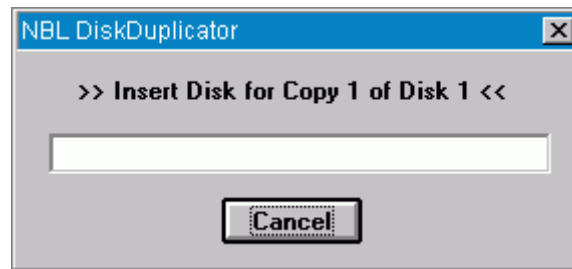

Figure 2
2. Double click on the firmware upgrade executable file from the stored location. The text box shown in **Figure 2** will flash on the computer display.